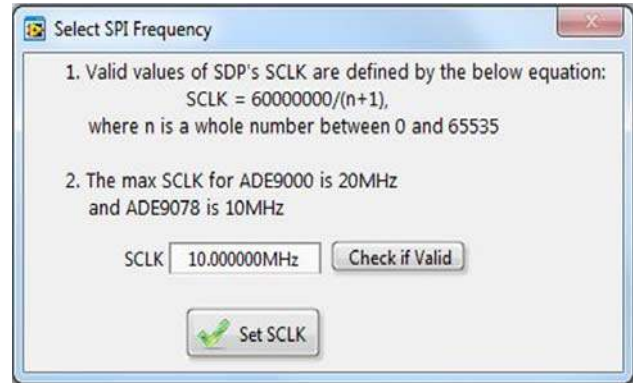

Figure 10. **Set SCLK** Option on the SDP-B Board
1. **Set SCLK.** Click this option to open the **Select SPI Frequency** window, as shown in Figure 10. Set the serial peripheral interface (SPI) clock frequency for communication between the ADE9000 and the SDP-B board using this window. Enter the intended SCLK frequency value on the SCLK control and click **Check if Valid**. The **Check if Valid** option rounds off the clock frequency to the closest setting that is possible in the SDP-B board. Finally, click **Set SCLK** to set the SCLK frequency in the SDP-B board. The window closes automatically. The default SPI clock rate is 10 MHz.